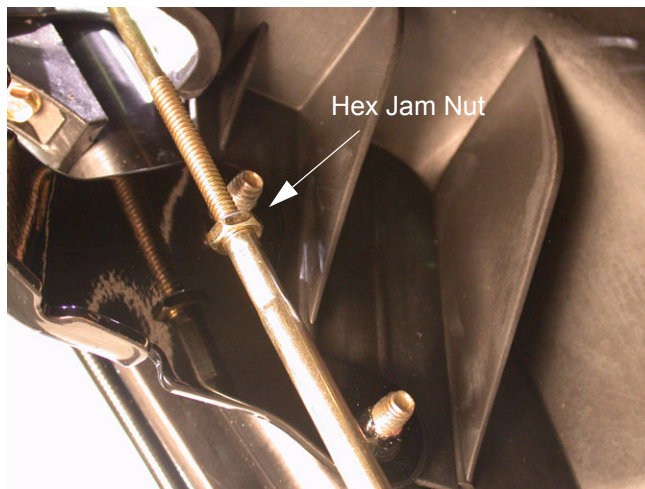

Figure 9
- 6.4. To readjust the control cable, loosen the hex jam nut on the auger control cable "Z" fitting. Rotate the coupling end of the cable counterclockwise to provide more slack. Retighten the hex jam nut. See Figure 9.